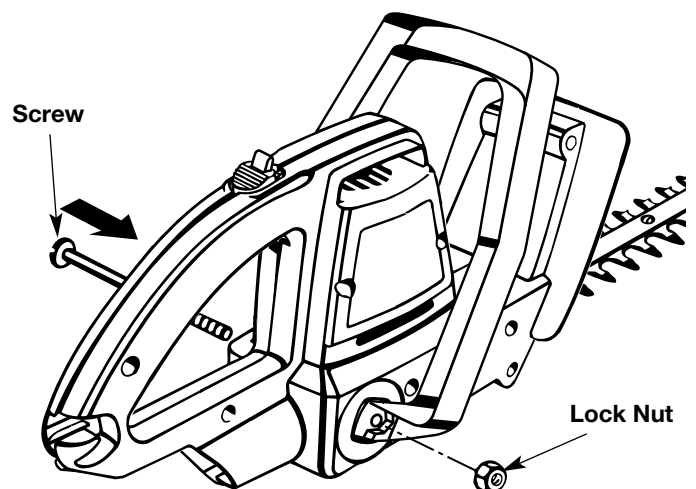

Fig. 2
4. Insert screw from left to right through the front handle and motor housing (Fig. 2).